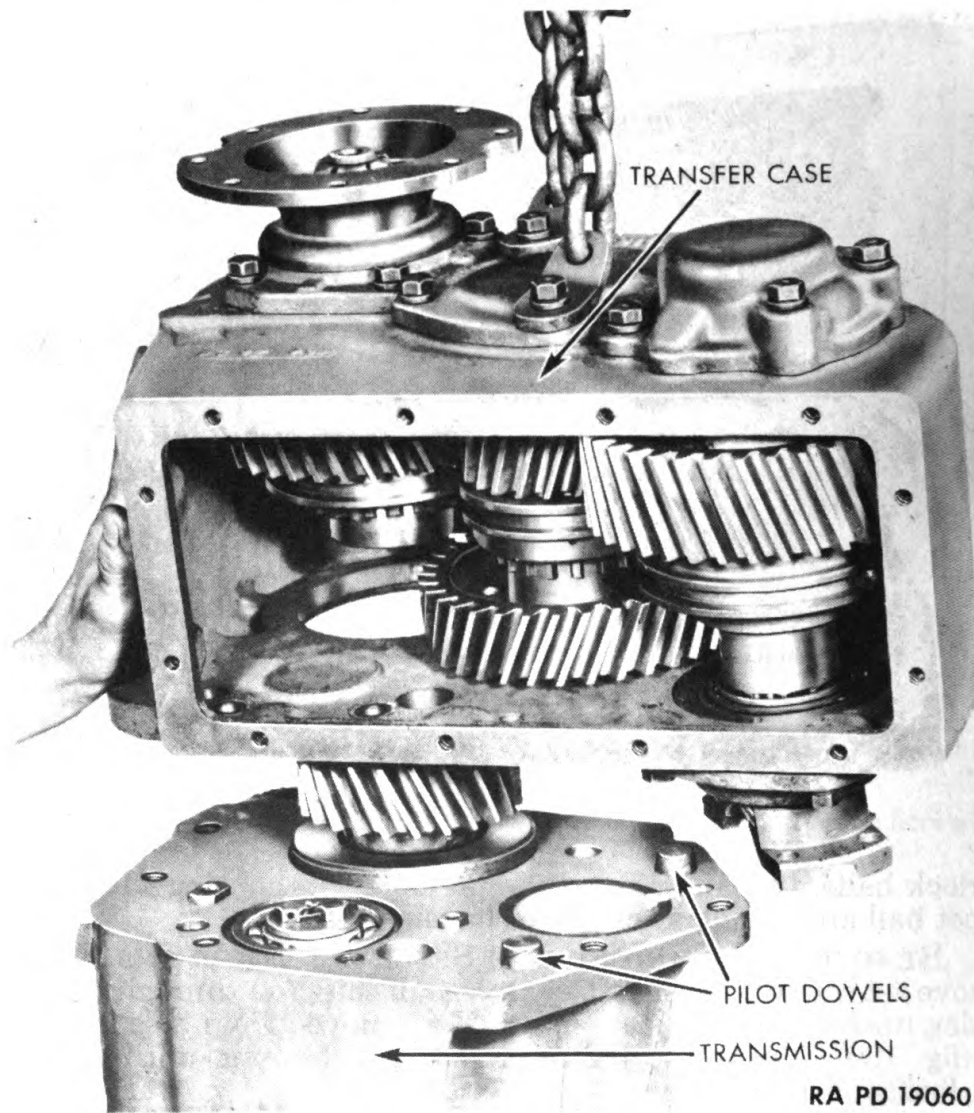

Figure 138 — Lifting Transfer Case from Transmission
(2) **LIFT TRANSFER CASE FROM TRANSMISSION CASE** (fig. 138).